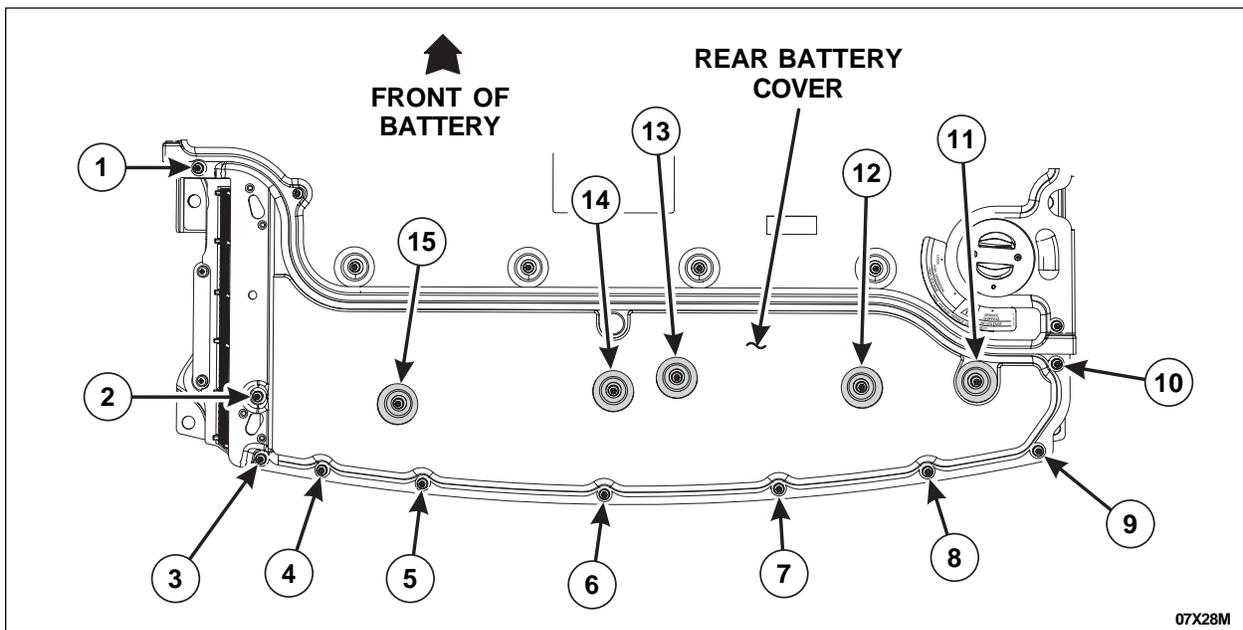

FIGURE 13
21. Install the 15 Torx screws finger-tight in the rear battery cover, then tighten to 3 Nm (26 lb-in) in the sequence shown in Figure 13.